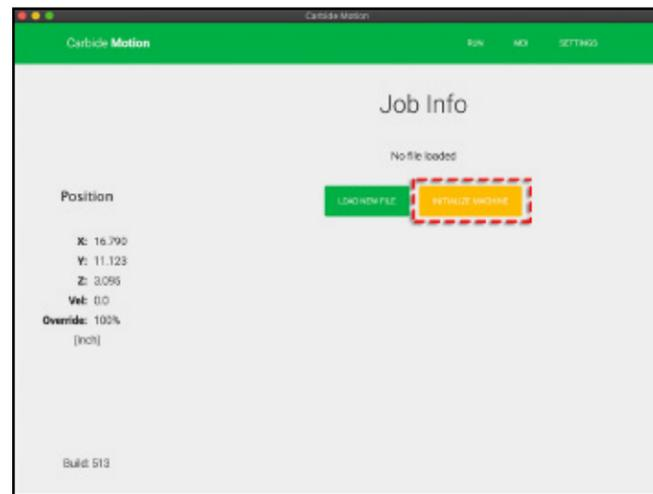

Figure 11-4
- Click the yellow **Initialize Machine button**. See **Figure 11-4**. This activates the homing sequence and your machine will do the following: